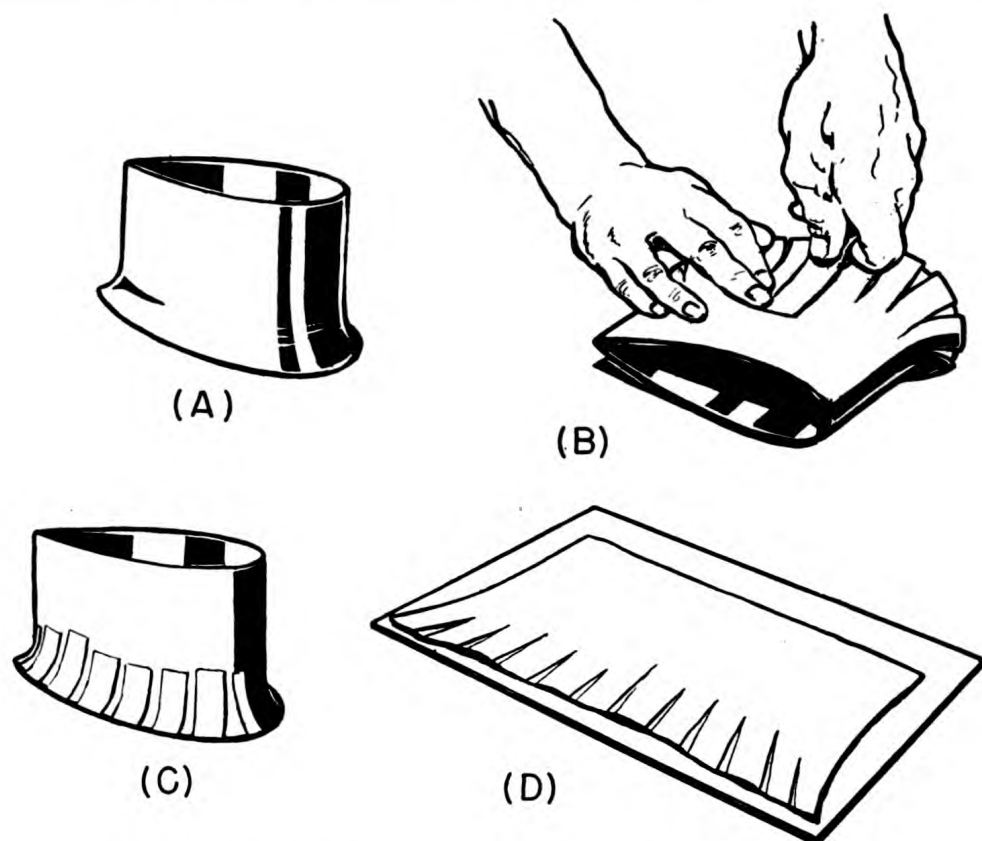

Figure 58.—Making a pattern for an irregular shape.
To make an irregular shape like the fairing in (A) of figure 58, you must have a suitable template. You can get the general shape and outline of the part by fitting a piece of heavy paper around the part to be duplicated. Figure 58 (B), shows a piece of paper being wrapped around a fairing. The paper is cut wherever necessary to make it take shape more readily. Then
Now cut your pattern away from the fairing. Make the cut directly over the SEAM of the fairing. Then remove the masking tape from the pattern and lay the pattern out on the metal as in (D) of figure 58. Use a